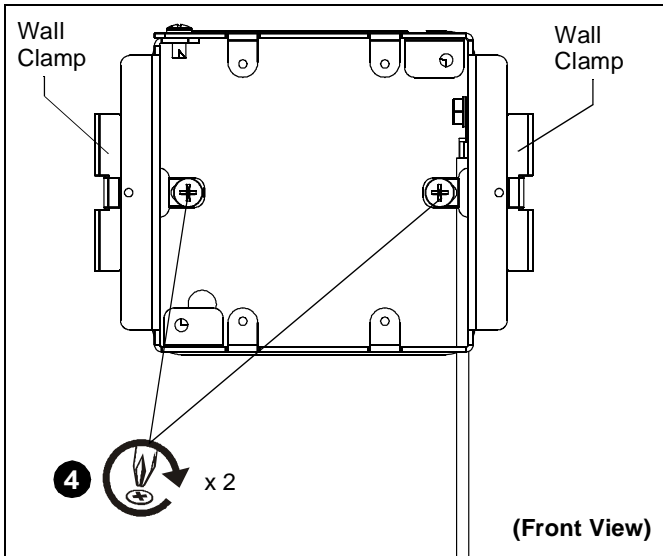

Figure 4
4. Tighten screws on the two drywall clamps so that they are locked in place in the drywall, and not laying flat against the PX2W. (See Figure 4)